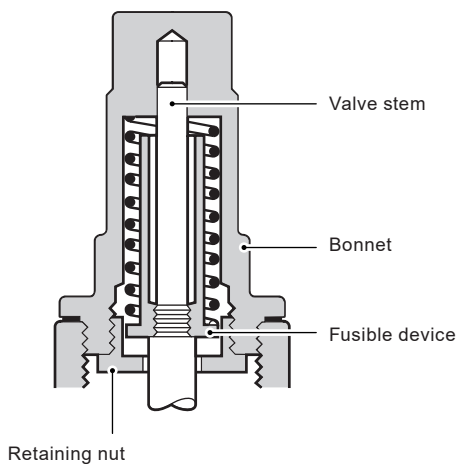

Fig. 7
## 4.4 SBRA valve with fusible device (refer to Figures 7 and 8)
- Isolate the valve and unscrew the bonnet (see Figure 7).